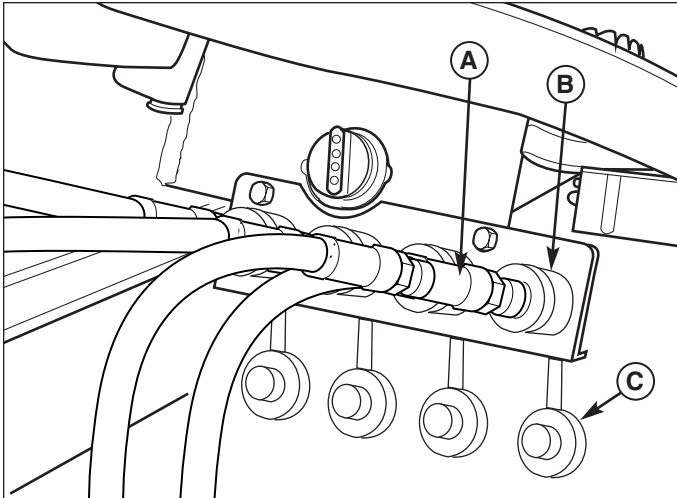

**Figure 6. Auxiliary Hydraulics (shown with Dozer Blade)**
The auxiliary hydraulic control levers are located in the control pod to the left of the seat (see Figure 6) and control the flow of hydraulic fluid to the quick connectors located under the left footrest.
Connect the hoses from the attachment hydraulic cylinders (A, Figure 8) to the quick connectors (B) located under the left foot rest. Refer to the flow diagrams in Figure 6 to determine the correct quick connector to connect to. Be sure to install the quick connector covers (see Figure 9) after disconnecting hydraulic hoses.